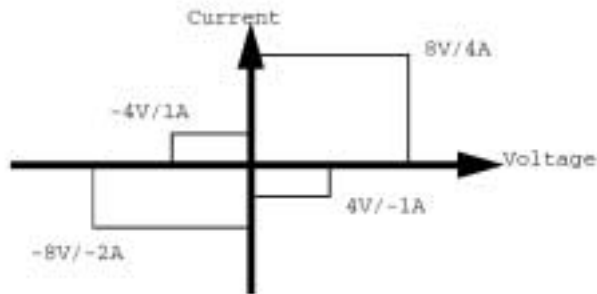

Fig. 1: Output VI Range
1. The output VI range is as shown in figure 1